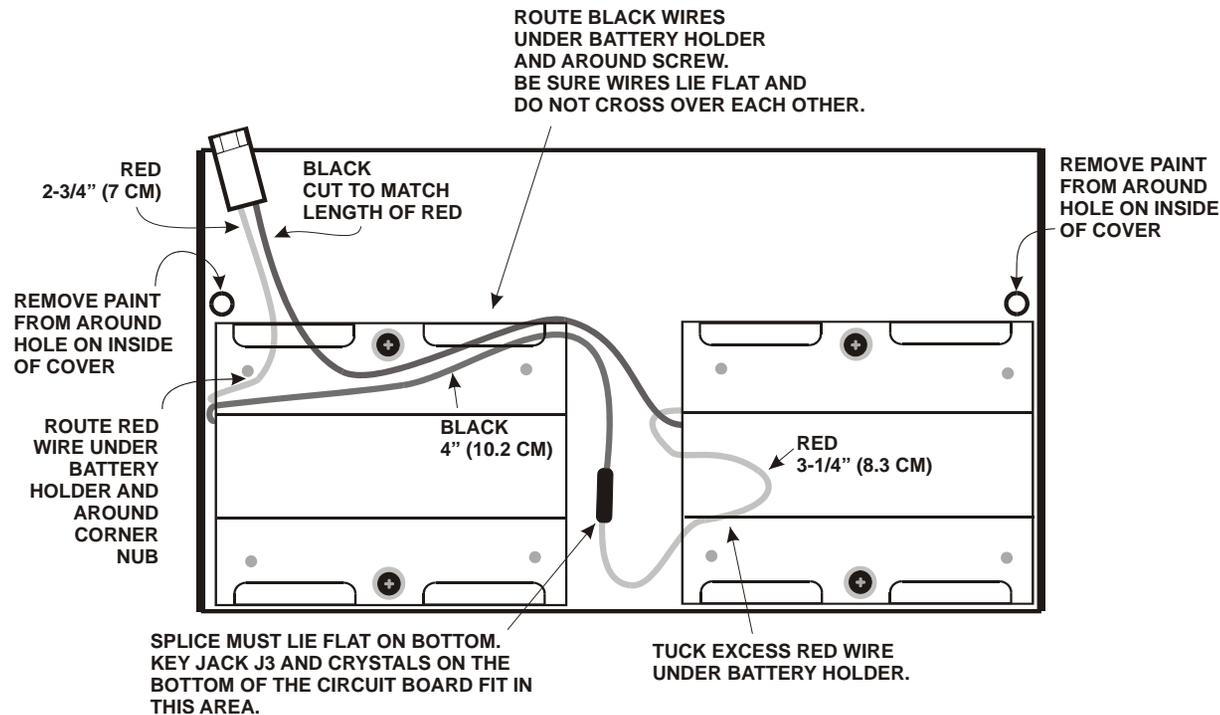

Figure 25. Wiring the Battery Holders.
In the following steps you will install and wire the battery holders. First, study the wiring drawing in Figure 25. The two holders are wired in series. The wires must run against the bottom cover and under the holders as shown to avoid interfering with other components when the KX1 case is closed.
Begin by removing the paint from around the holes on the inside of the bottom cover where it will attach to the stand-offs on the circuit board. There are two holes; one at each end of the cover (see Figure 25).
Mount this holder in the right hand position as shown in Figure 25 using two 2-56 screws. **Do NOT over-tighten the screws, as this may strip the threads.** Be sure the wires exit at the left end as shown.
Position the second holder on the bottom cover oriented as shown and start a screw in the hole nearest the edge of the cover (closest to the bottom in Figure 25). Do not tighten this screw yet. Leave it loose enough so that the other side of the holder can be lifted up off of the cover far enough to slip wires underneath.
Slip the three wires shown in Figure 25 under the edge of the holder as follows:
- Be sure that you removed the paint from around the bottom cover holes (see Figure 25).